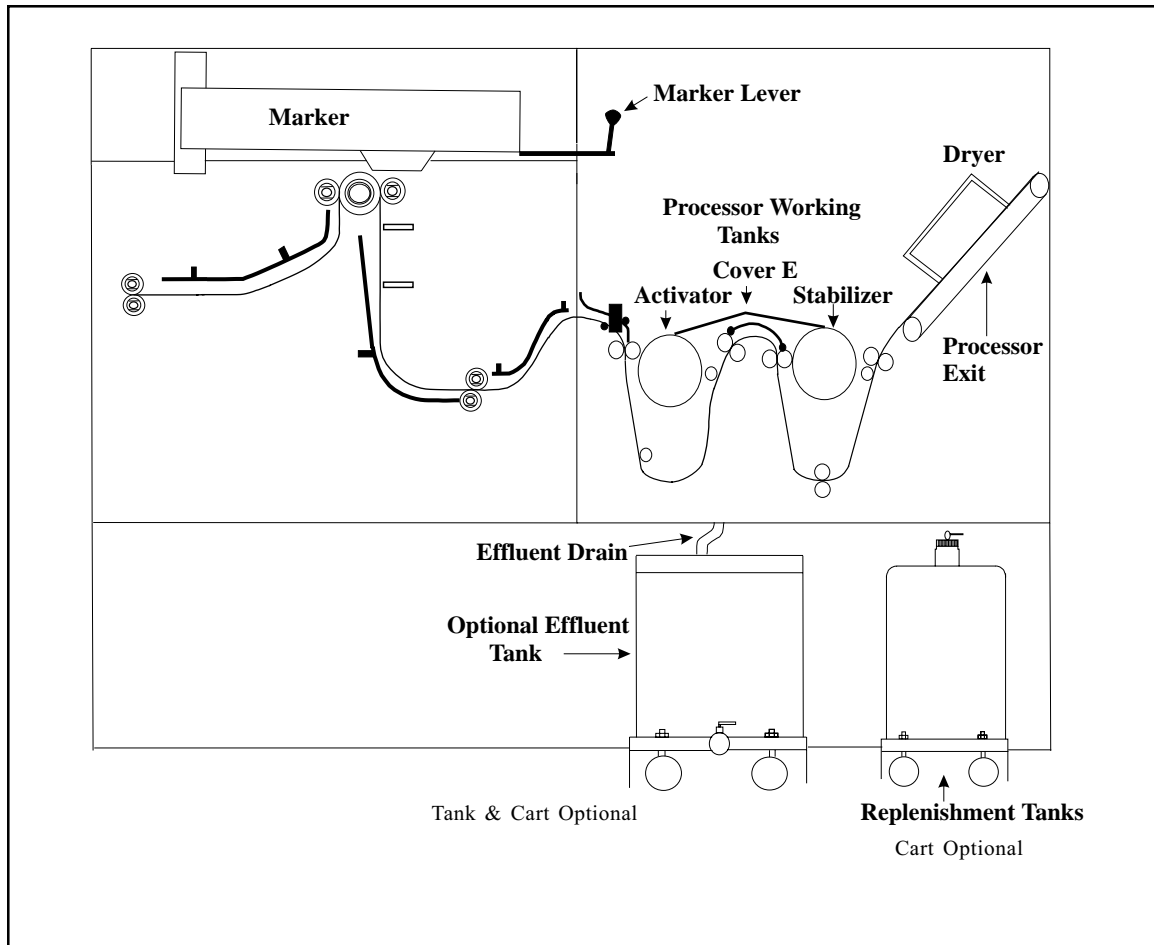

Figure 3-1 Side View of the PlateStream Platesetter Processor
1. Open the top cover and remove bottom front panel. Remove cover E. Gently roll out cart(s) from underneath the processor. (See figure 3-1).
1. Open the top cover. Raise the marker by pulling the marker lever towards the front of the Platesetter until the lever stops. Lift up on the marker gently. (See Figure 3-1).